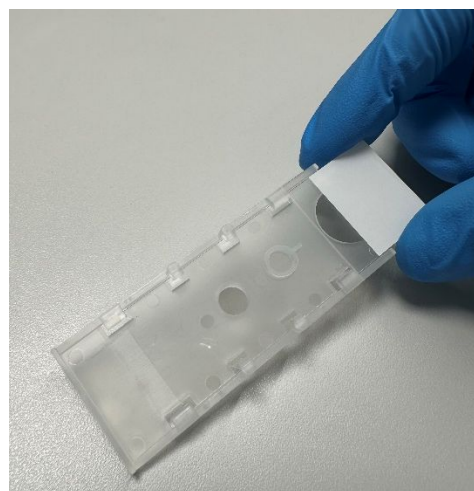

Figure 10a, b. Removing the microscope glass slide from the lower plastic casing.
- Remove the microscope glass slide from the lower plastic casing (Figures 10a, b).